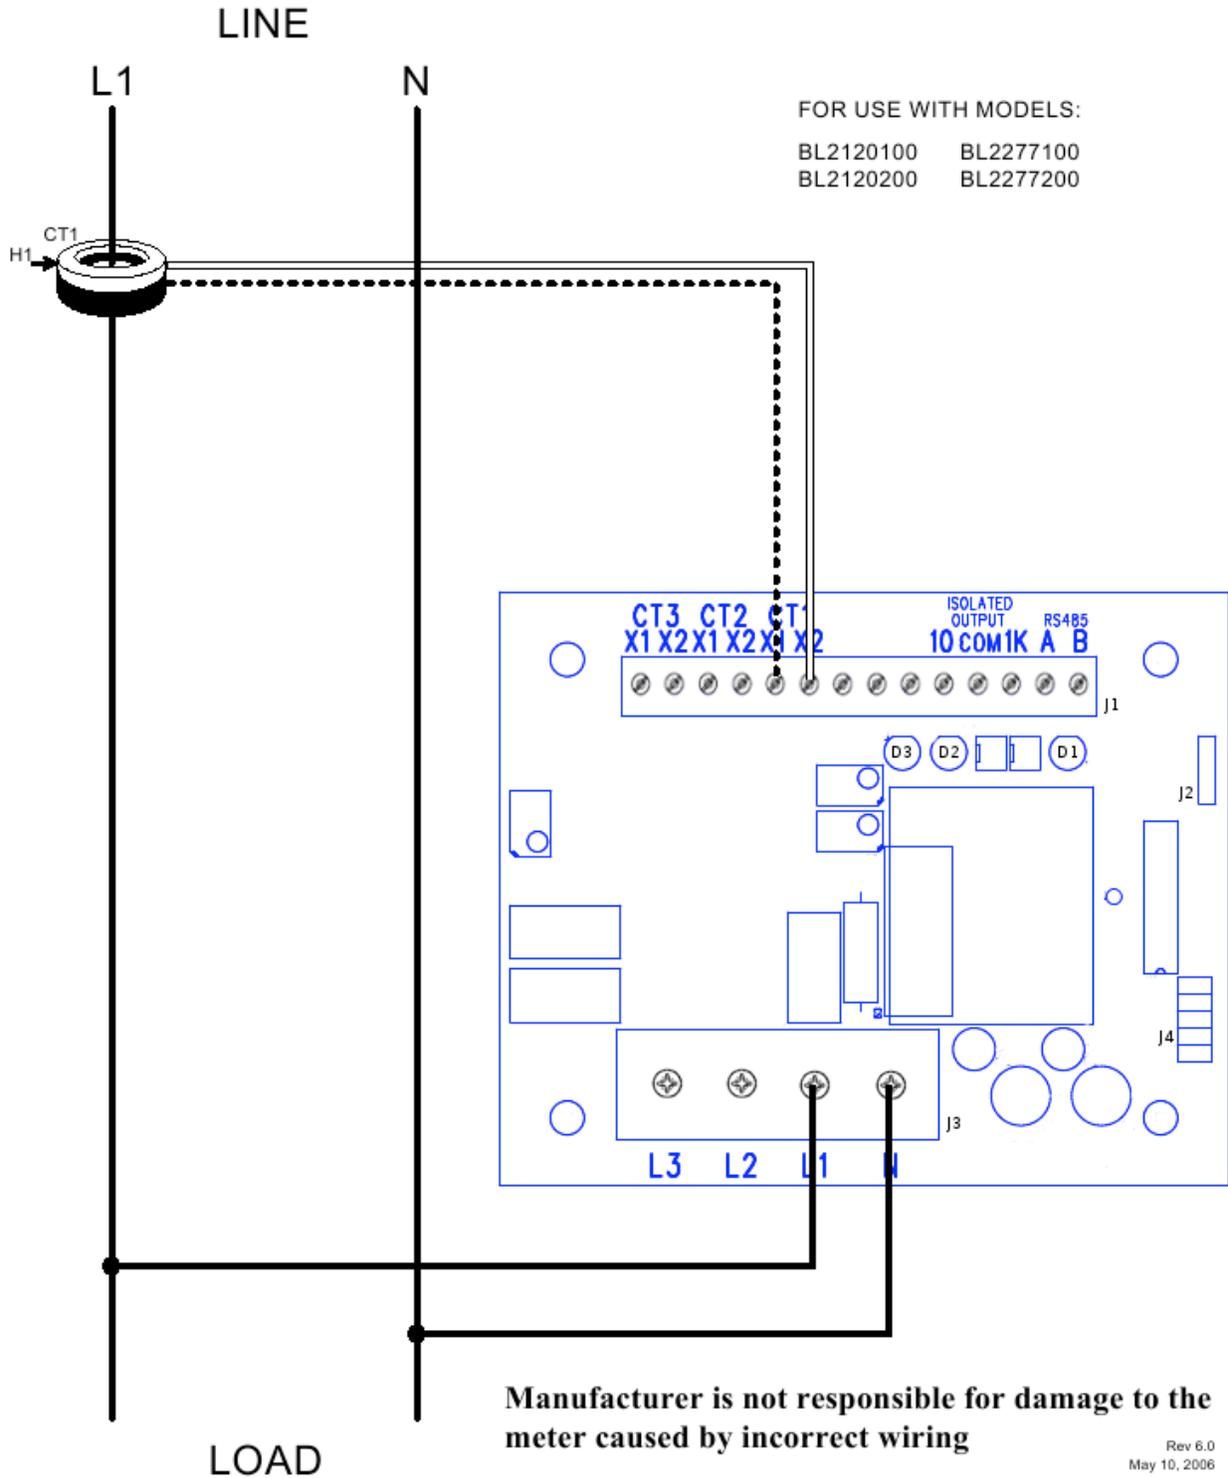
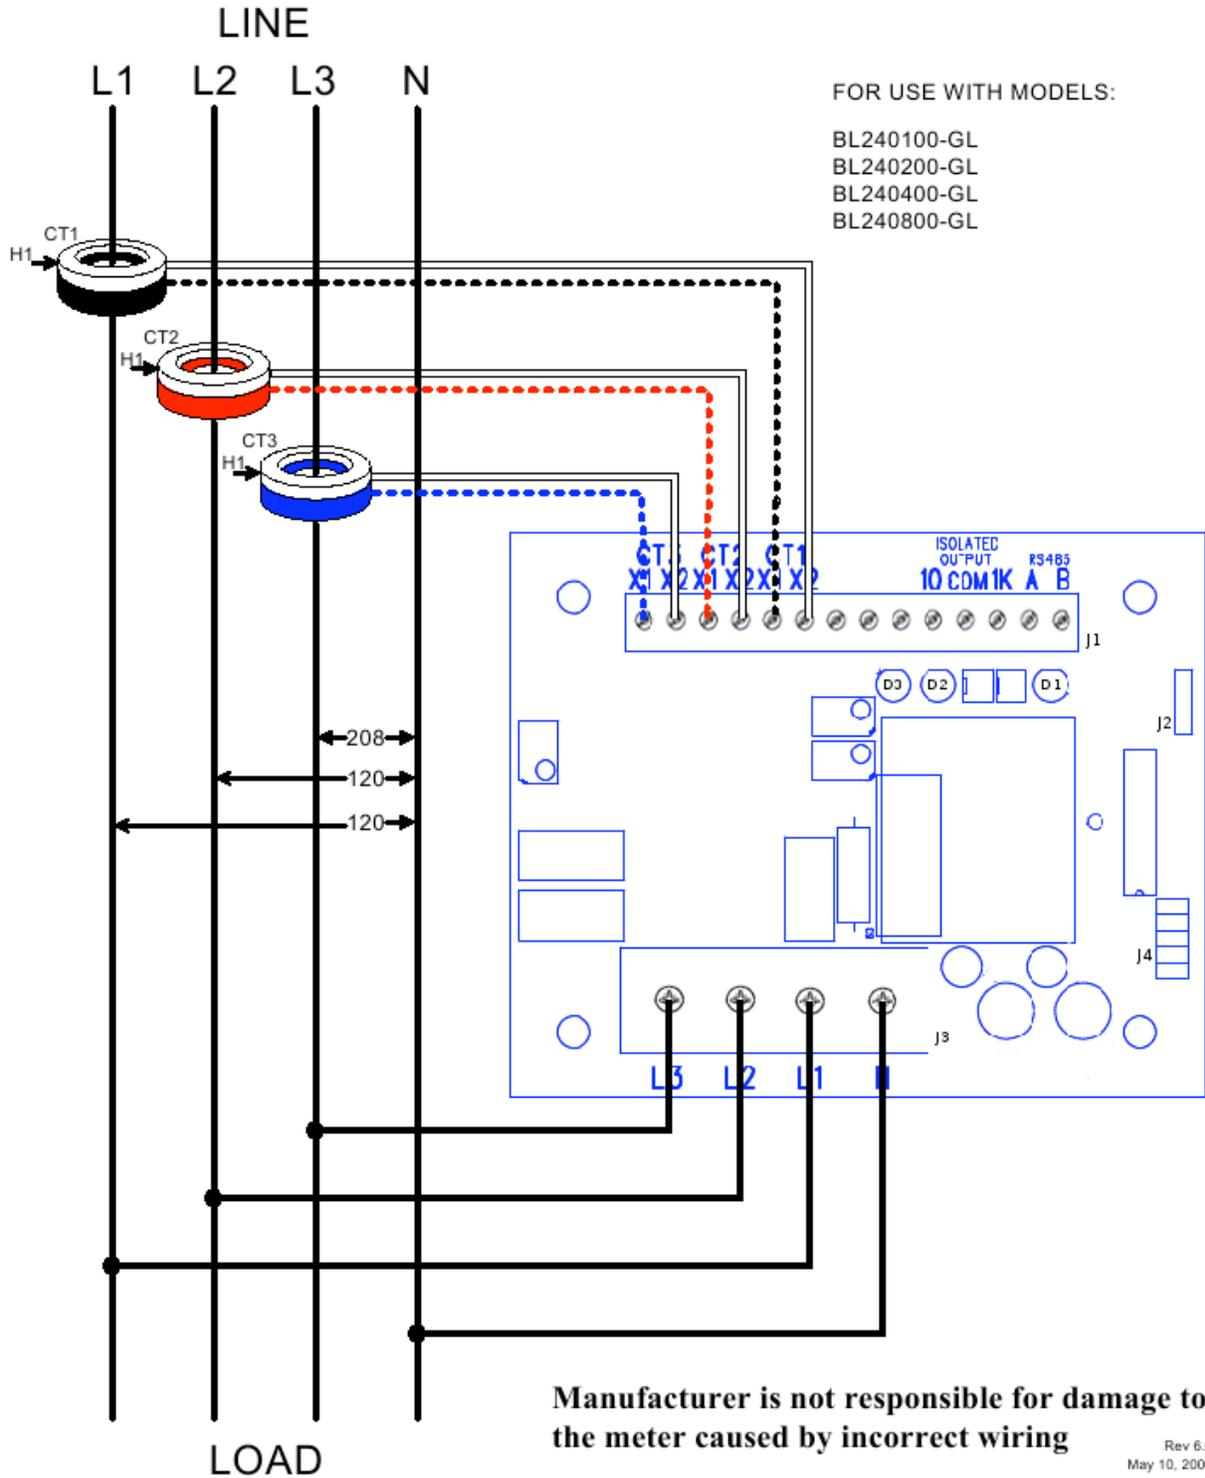

Figure 11: 1-phase, 2-wire hookup diagram
Figure 14: 3-phase, 4-wire Grounded Delta hookup diagram
1. Connect 18 AWG min., 600 V min. insulated wiring for Line voltages and Neutral to the appropriate locations in the breaker panel, in accordance with all national and local electrical codes. See wiring diagrams in Figure 11 through Figure 14 at the end of this section.
Failure to install CTs in the correct orientation and on the correct phase will lead to inaccurate meter readings. Figure 11 through Figure 14 show wiring diagrams for the various voltage configurations.